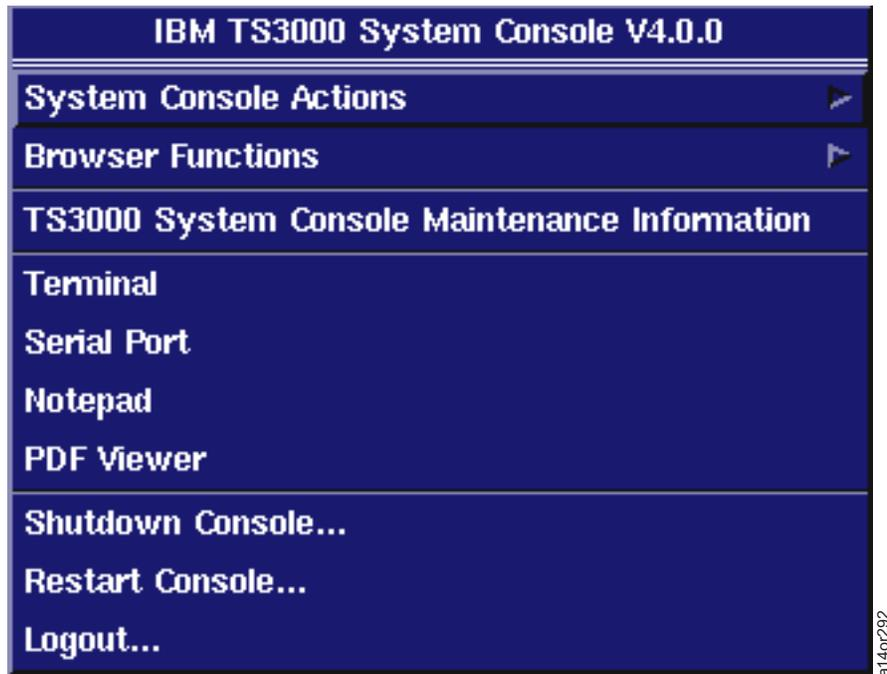

Figure 122. Serial Port Selection on TSSC Screen
1. After logging in to the TSSC, from the TSSC desktop, right-click on the desktop to see Figure 122.